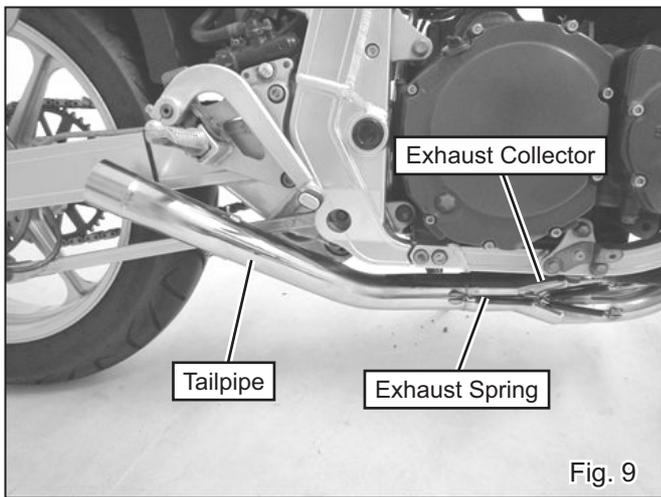

Fig. 9
- 10) Insert Tailpipe to Exhaust Collector and install 2 of Exhaust Spring. (See Fig. 9 on next page)